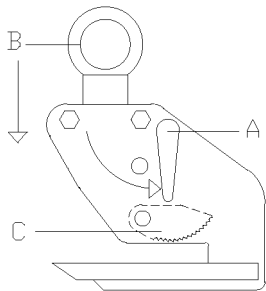

Figure 5
2. For the “**HL-Lock**” model Safety Clamp, open the jaw by releasing the locking handle down (A, Fig. 5), and pushing shackle (B) into the clamp and maintain this position manually until the clamp is placed onto the material.